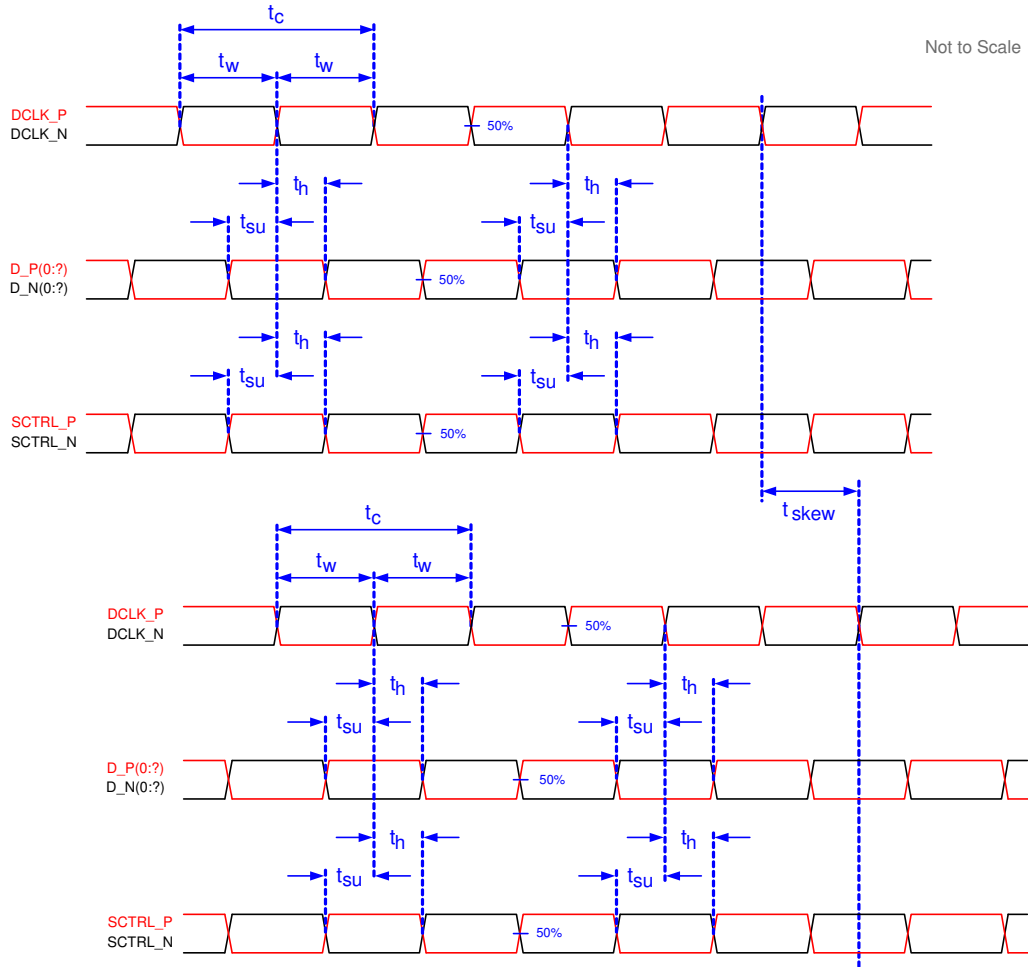

图 5-6. Timing Requirements
- See LVDS Timing Requirements in 节 5.8 and 图 5-6.
(1) See 图 5-6 for timing requirements for LVDS.
(2) Channel A (Bus A) includes the following LVDS pairs: DCLK_AN and DCLK_AP, SCTRL_AN and SCTRL_AP, D_AN(15:0) and D_AP(15:0).
(3) Channel B (Bus B) includes the following LVDS pairs: DCLK_BN and DCLK_BP, SCTRL_BN and SCTRL_BP, D_BN(15:0) and D_BP(15:0).